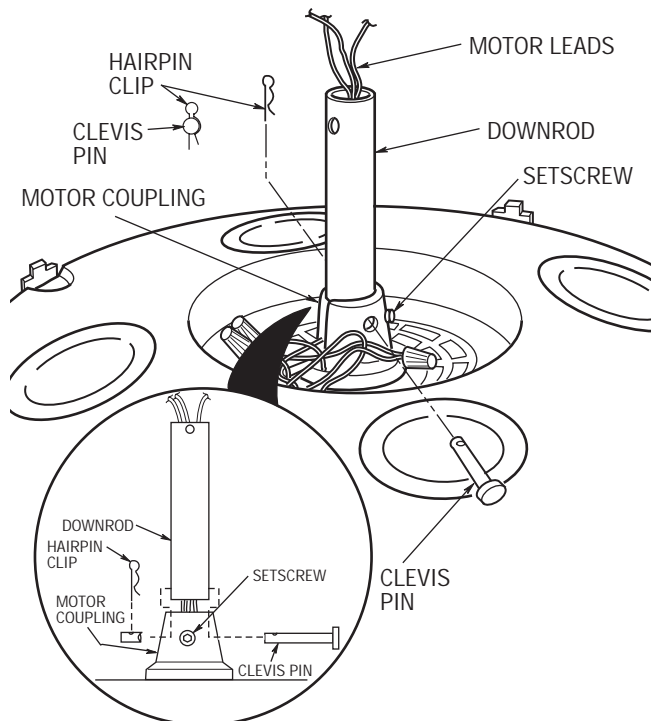

Figure 2
3. Separate, untwist and unkink the three motor leads. Route the motor leads through the downrod and seat the downrod in the motor coupling (Figure 2).
4. Align the clevis pin holes in the downrod with the holes in the motor coupling. Install the clevis pin and secure with the hairpin clip (Figure 2). (Pin and clip are supplied in loose parts bag.) The clevis pin must go through the holes in the motor coupling and the holes in the downrod. Push the straight leg of the hairpin clip through the hole near the end of the clevis pin until the curved portion of the hairpin clip snaps around the clevis pin. The hairpin clip must be properly installed to prevent the clevis pin from working loose. Pull the hanger ball to make sure the clevis pin is properly installed.
It is critical that the clevis pin in the motor coupling is properly installed and the setscrew securely tightened. Failure to verify that the pin and setscrew are properly installed (as shown in Figure 2) could result in the fan falling.
5. Install the setscrew (supplied) in the motor coupling (Figure 2). While pulling up on the downrod, tighten the setscrew using the setscrew wrench (supplied).